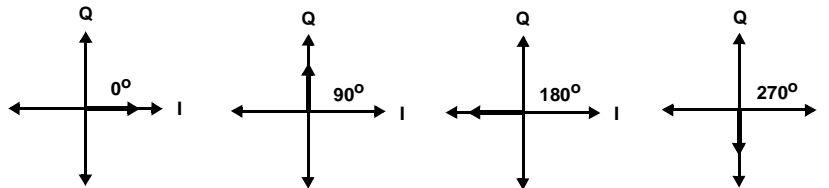
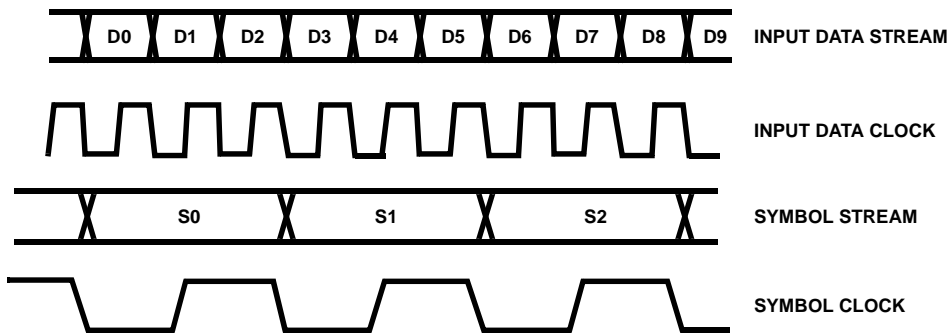
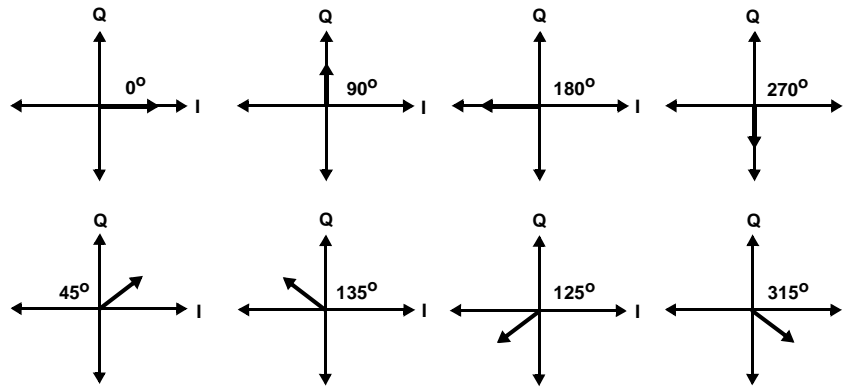

FIGURE 4.
FIGURE 5.
FIGURE 6. VECTOR REPRESENTATIONS OF THE 8PSK SYMBOLS CREATED FROM THREE DATA BITS
in-phase and quadrature components. Two data bits will determine in which of four phase states the carrier will be placed:  $0^\circ$ ,  $90^\circ$ ,  $180^\circ$ , or  $270^\circ$ . This phase shift is accomplished using the I (in-phase) and (Q) quadrature orthogonal vectors as shown in Figure 4. Figure 5 illustrates the data and symbol relationship for 8PSK, while Figure 6 shows the possible carrier vectors created for a symbol.